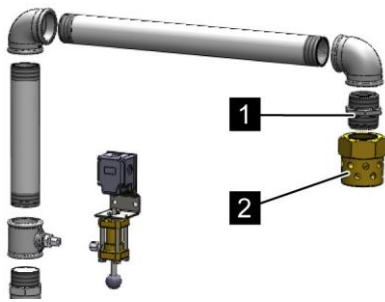

Fig. 59: Mounting the discharge nozzles
4. ➤ Wrap fitting (Fig. 59/1) with a suitable sealant (e.g. Teflon sealing tape) and screw the discharge nozzle (Fig. 59/2) onto the vertically aligned fitting.